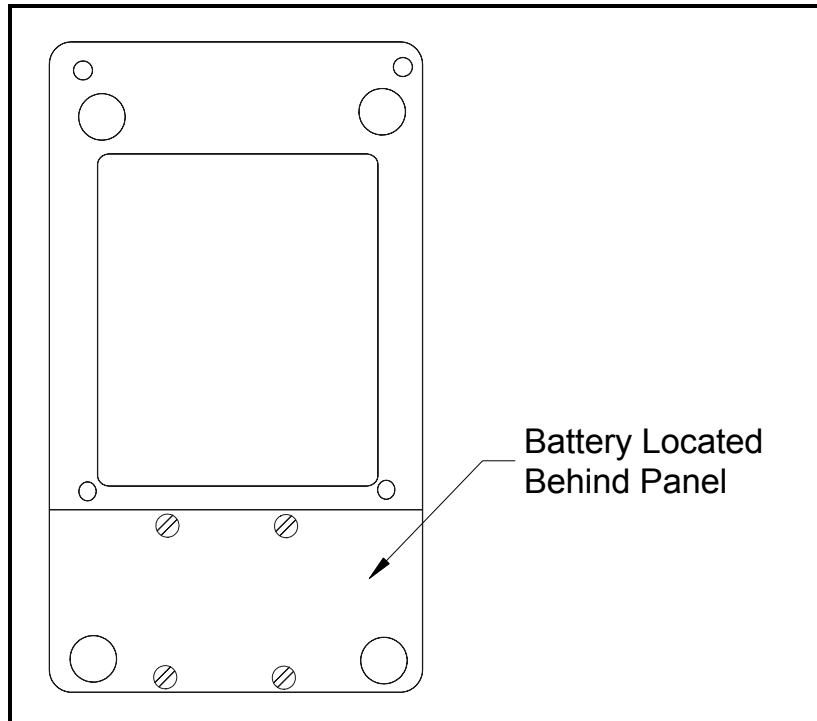

Figure 1-2: Back Panel of PT878
4. Install the new batteries (see Figure 1-2 below).